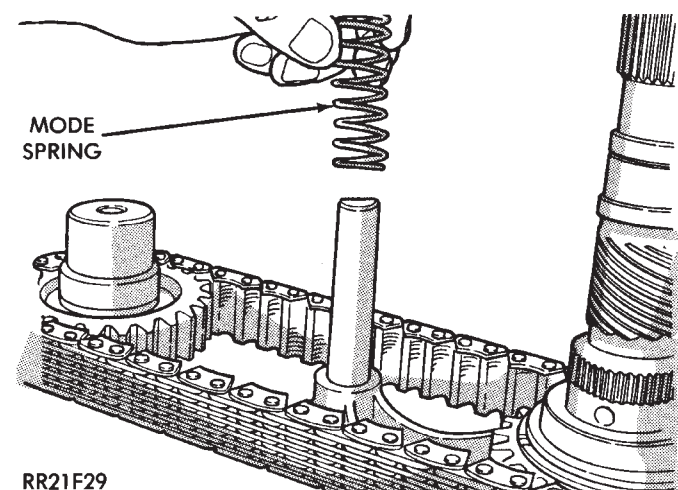

Fig. 21 Mode Fork Spring Removal
- (6) Remove mode fork spring (Fig. 21).